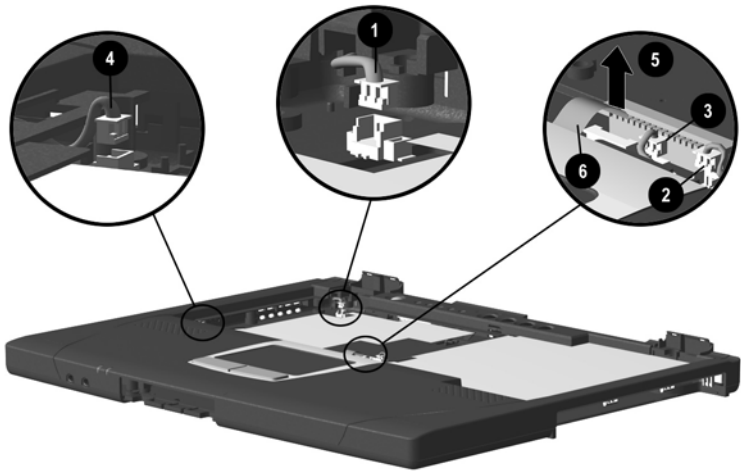

Figure 5-9. Disconnecting Top Cover Connectors
5. Disconnect the display lid switch board **1**, microphone **2**, and right **3** and left **4** speaker cables (Figure 5-9).